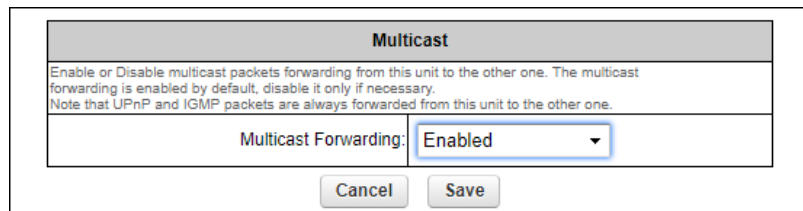

Figure 40. Multicast dialog (Bridge mode)
2. Click the **-multicast** link under **ADVANCED SETTINGS** in the left-hand settings menu (Figure 40 (page 112)).